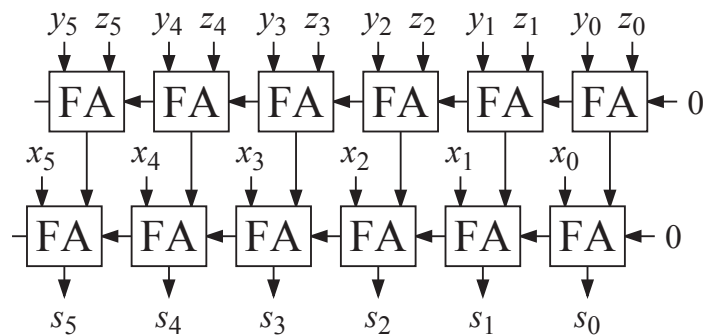

Figure 4. Adder schematic.
A circuit used for adding three 6-bit binary numbers  $X = \langle x_5, \dots, x_0 \rangle$ ,  $Y = \langle y_5, \dots, y_0 \rangle$ ,  $Z = \langle z_5, \dots, z_0 \rangle$  and computing a sum  $S = \langle s_5, \dots, s_0 \rangle$  is shown in Figure 4. The inputs come from registers. A full adder (FA) has the propagation delay 60 ps for all inputs to all outputs. To solve the problems below you may use 2:1 multiplexers that have a propagation delay of 50 ps, and inverters that have a propagation delay of 30 ps.